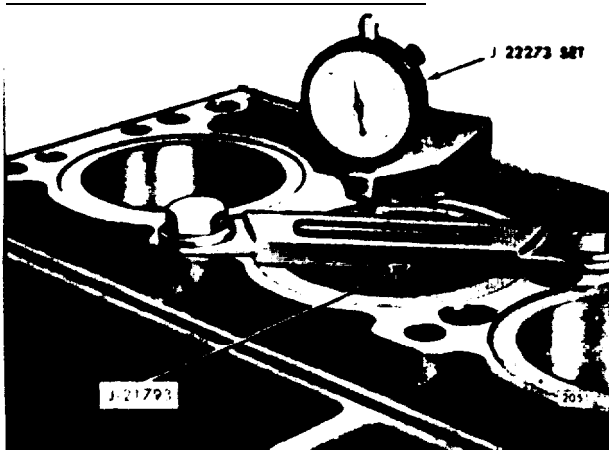

Fig. 7 Checking Distance of Liner Flange Below Top Face of Block
3. Clamp the liner in place with hold-down clamp J 2 1793 and measure the distance from the top of the liner flange to the top of the block with dial indicator set J 22273 (Fig. 7). The top of the liner flange should be .0465" to .0500" below the top of the block, and there must not be over .0015" difference in depth between any two adjacent liners when measured along the cylinder longitudinal center line. If the above limits are not met, install the liner in another bore and recheck, or use a new liner.
3. If any of the pistons and liners are already in the engine, use hold-down clamps (Fig. 7) to retain the liners in place when the crankshaft is rotated.